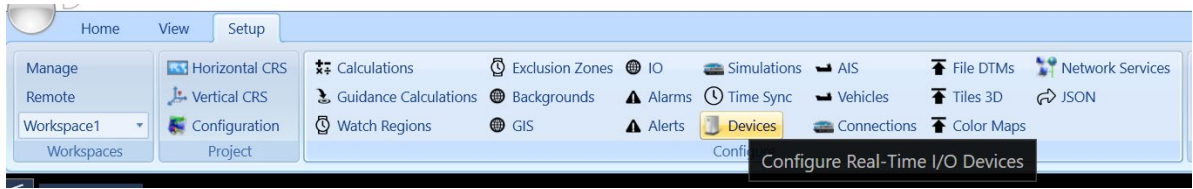
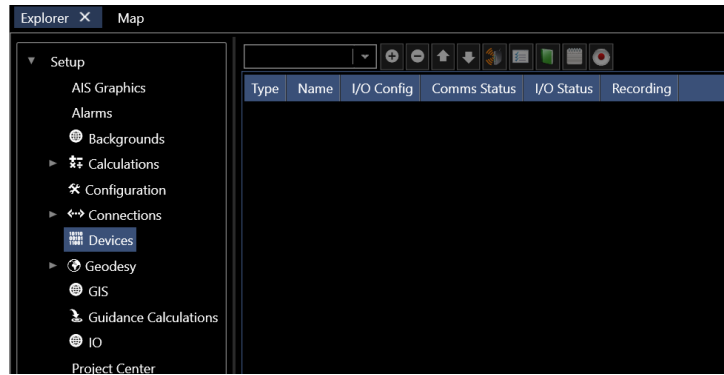

FIGURE 18-2 I/O DEVICES – SETUP RIBBON
FIGURE 18-3 I/O DEVICES – PROJECT EXPLORER
1. Add device by clicking on Devices in the Configure section of the Setup ribbon, see Figure 18-2, alternatively devices can be accessed from the Project Explorer view, see Figure 18-3. This opens the I/O Devices window.